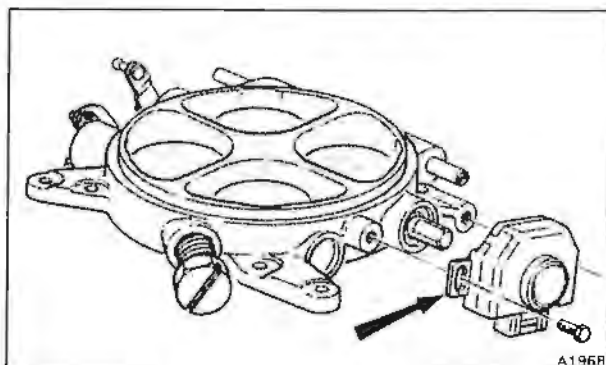

Fig. B2-17 Throttle position switch
**Throttle position switch** (see fig. B2-17)